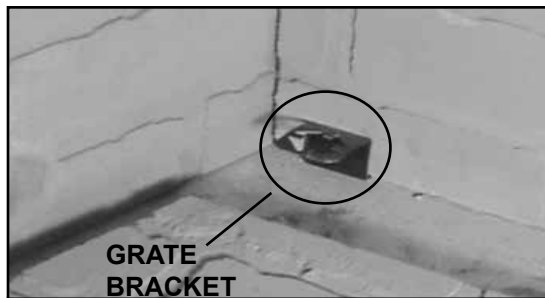

Figure 8.6 Sliding Bottom Refractory Towards Back of Fireplace
- When placing hearth stone into fireplace, slide it back until it fits tightly against back refractory (underneath grate brackets). See Figure 8.6.